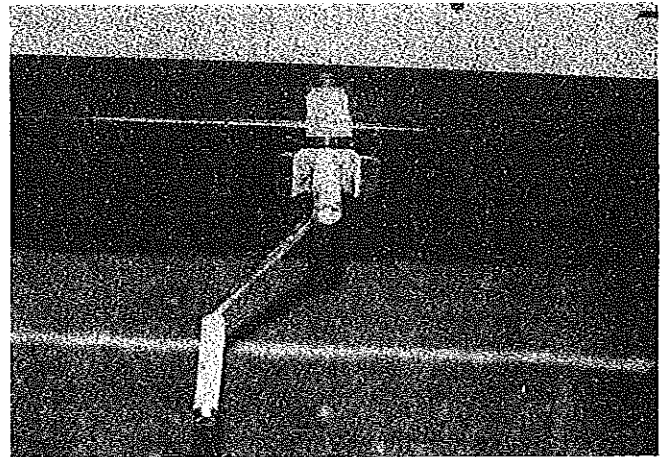

FIGURE 4
9. Remove the crank handle from its storage location and attach it to the crankshaft located at the center of the rear bumper. See Figure 4.